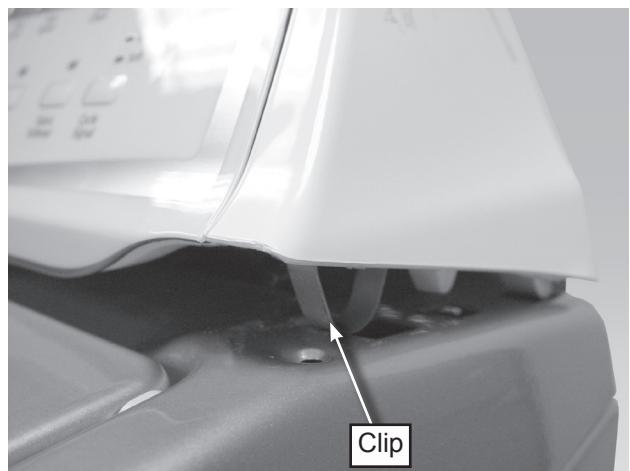

Figure 4
5. Lift the panel off of the top, see figure 4.